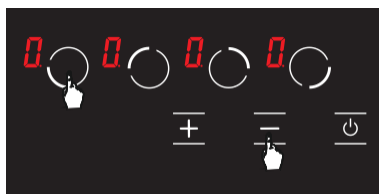

Figure 14
1. Press front left hob selection key (**⏻**) and minus key (**-**) simultaneously, you will hear a short warning signal at this time. (see Fig. 14) Then, remove your fingers from the Hob control panel.